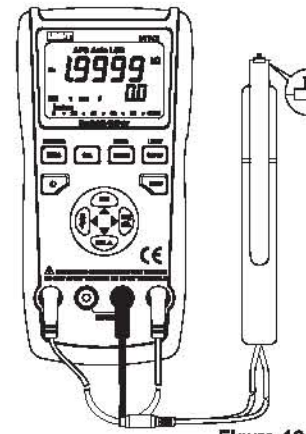

Figure 12
- 3) Insert the resistor into input terminals or connect the resistor to the meter using the test clamp(See Figure 12).